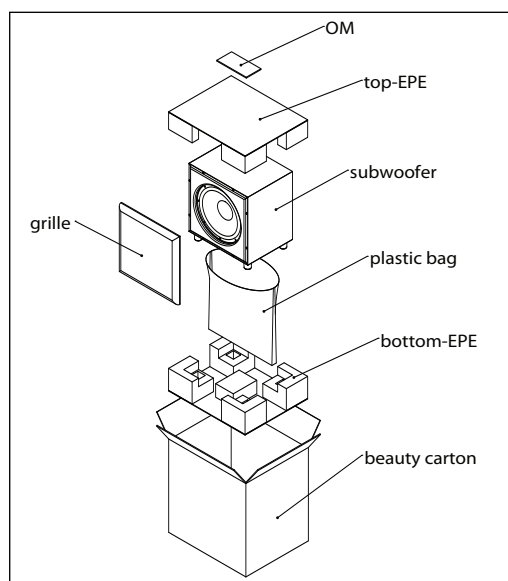

Figure 1: Unpacking the B120 subwoofer
1. Place the packing carton upright and fully open the top flaps. Refer to Figure 1.
4. In addition to what is shown in Figure 1 above, the following is included with each B120: